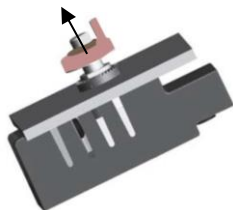

Figure 4
3. The metal ring on the spindle has a small protrusion and it works together with the clear plastic stopper to keep the spindle in a fixed position. The metal ring must remain on the spindle. Loosen the plastic stopper by gripping and lifting it with fingers (Figure 4). Alternatively, the stopper can be loosened by inserting a small flat tip screwdriver into the notch at its base.